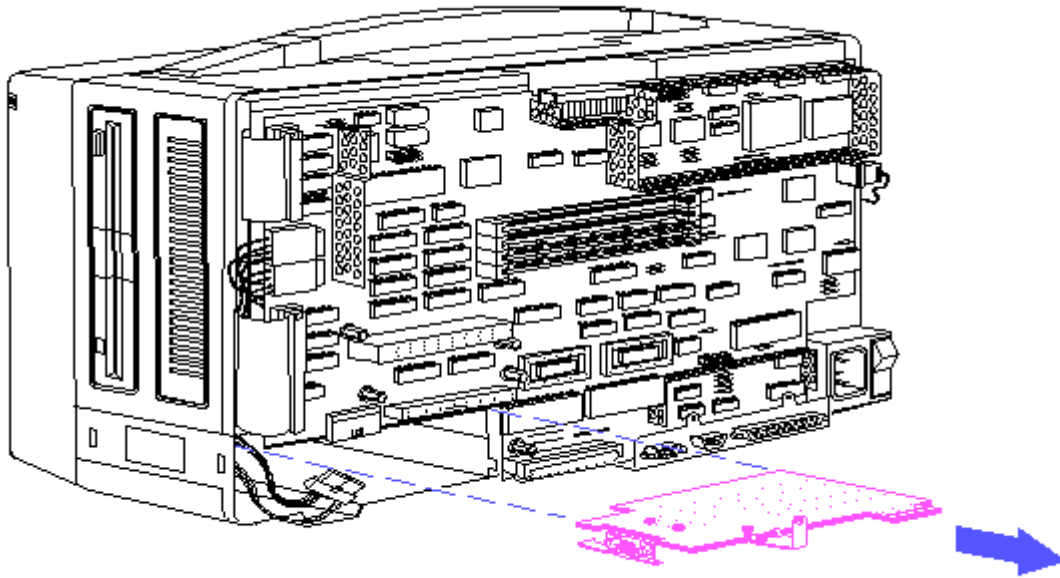

Figure 8-21. Removing the Second Serial Interface Board
6. Slide the second serial interface board out of the options compartment and set it aside (Figure 8-21).